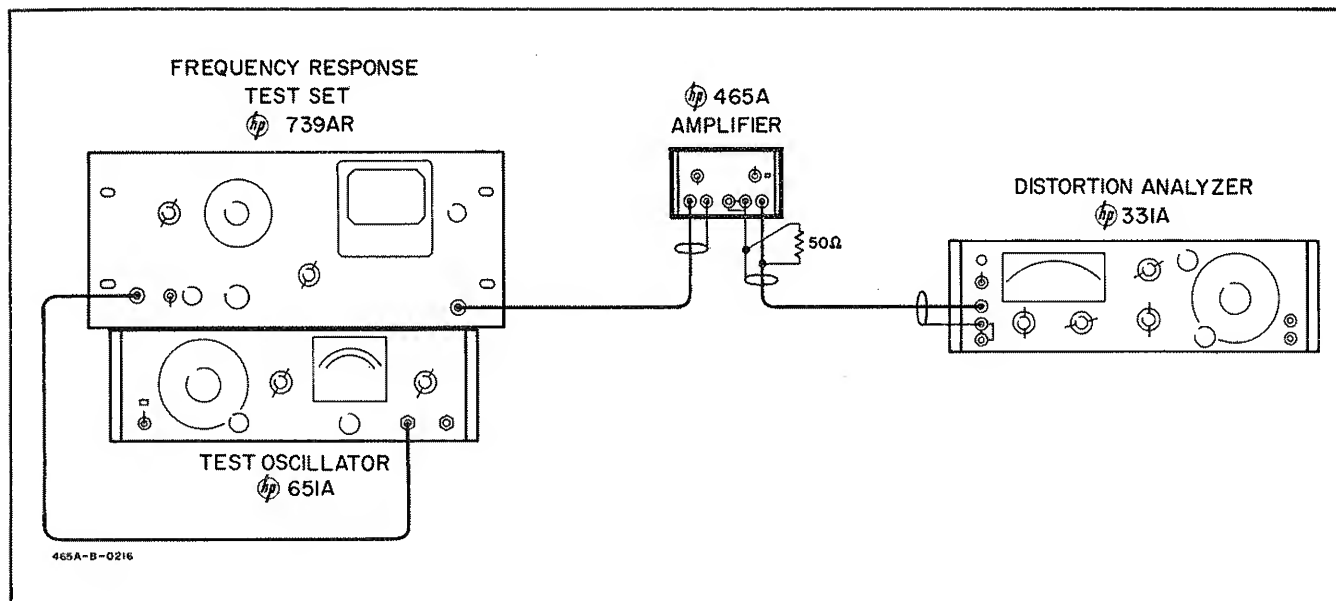

Figure 5-2. Distortion Check
a. Figure 5-2 describes the test arrangement recommended. A Test Oscillator (-hp- Model 651A), a Distortion Analyzer (-hp- Model 331A) and a Frequency Response Test Set (-hp- Model 739AR) will be required.
b. Connect Model 465A as shown in Figure 5-2.